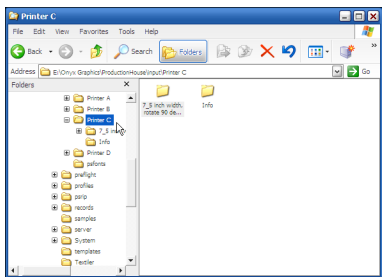

Figure 27—Hot Folders
3. In your program files, find the **Input** folder, and select the printer you want to use. This opens the Hot Folders associated with that printer (see Figure 27).